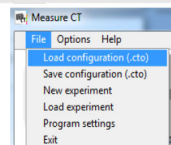
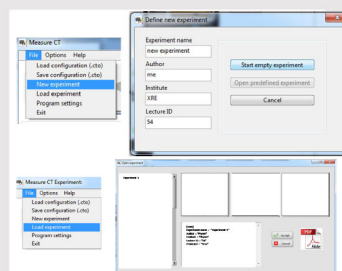

Fig. 4: The settings for this
Fig. 5: How to create a new or open an existing experiment
- Adjust the XRIS settings and X-ray unit settings according to Fig. 4 or load the configuration from the predefined CTO file 'Experiment 4' (see Fig. 5).
- Start a new experiment, give it a unique name and fill in your details (Fig. 5). Alternatively it is also possible to load this experiment with pre-recorded images and open this manual. The correct con-figuration will be loaded automatically as well but the functionalities of the software will be limited to avoid overwriting the existing data.